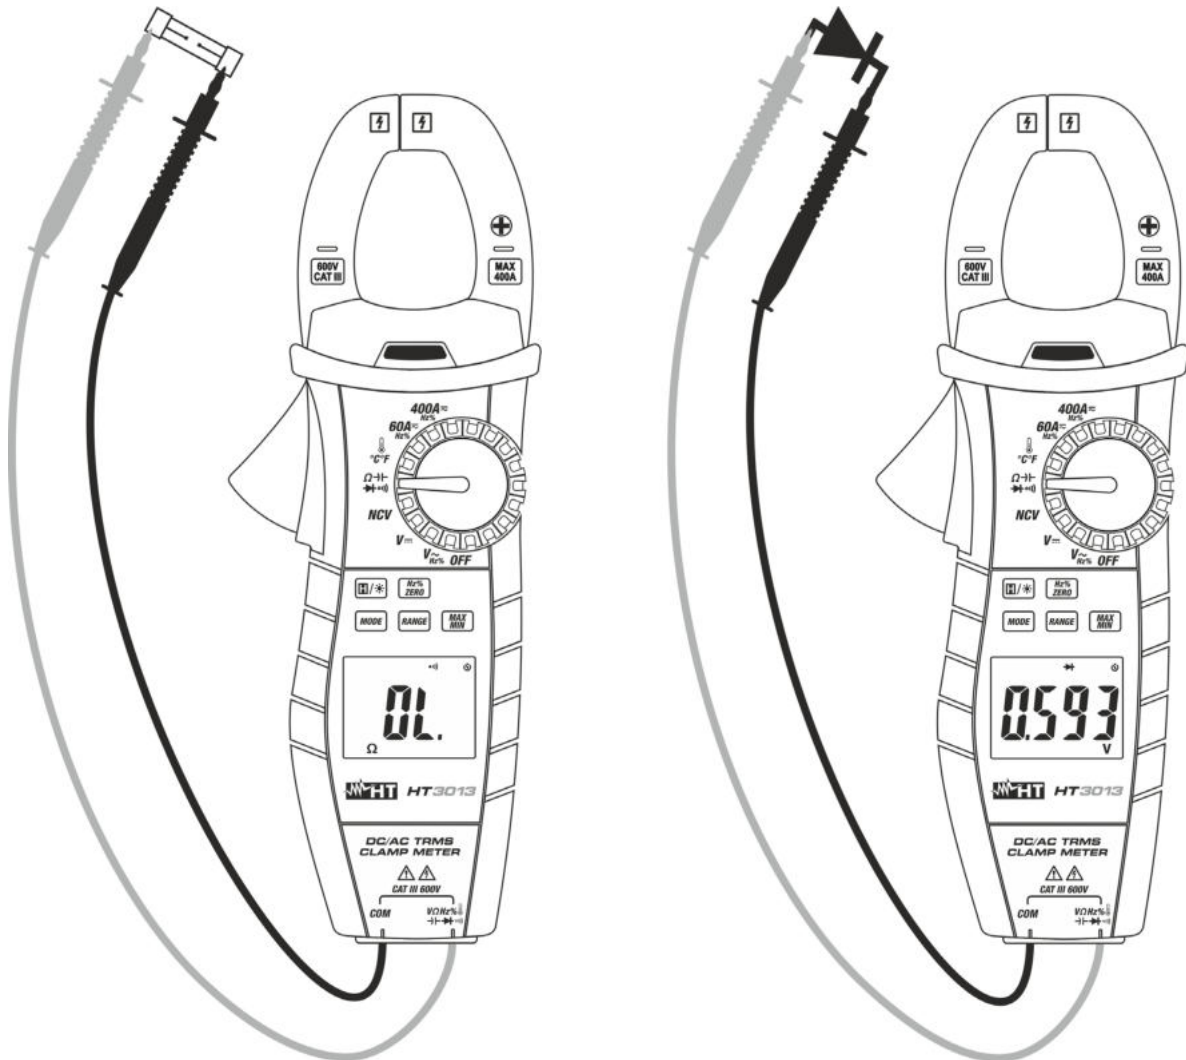

Fig. 8: Use of the instrument for continuity test and diode test
3. Insert the red cable into input terminal  $\rightarrow \rightarrow \rightarrow \rightarrow \rightarrow \rightarrow$  and the black cable into input terminal **COM** and carry out the continuity test of the object to be measured (see Fig. 8– left side). A buzzer sounds when the measured value of resistance is lower than  $30\Omega$
5. Connect the red lead to the anode of the diode and the black lead to the cathode in case direct polarization measurement is carried out (see Fig. 8 – right side). Invert the position of the leads in case reverse polarization measurement is carried out.